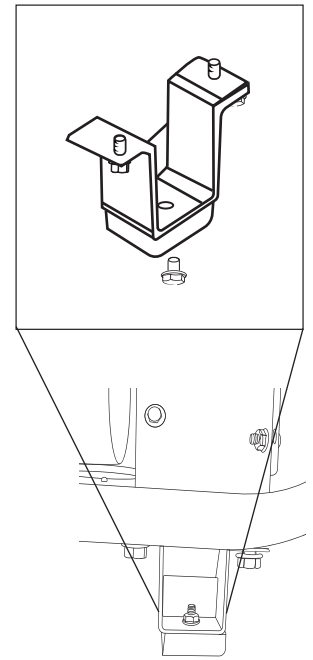

FIGURE 1
4.1.1 Attach the Feet(FIGURE 1):